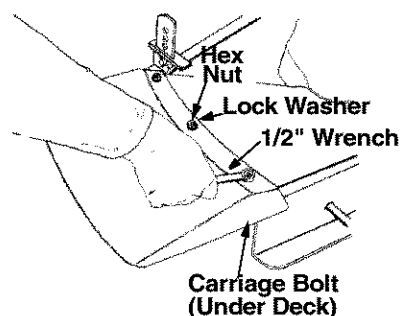
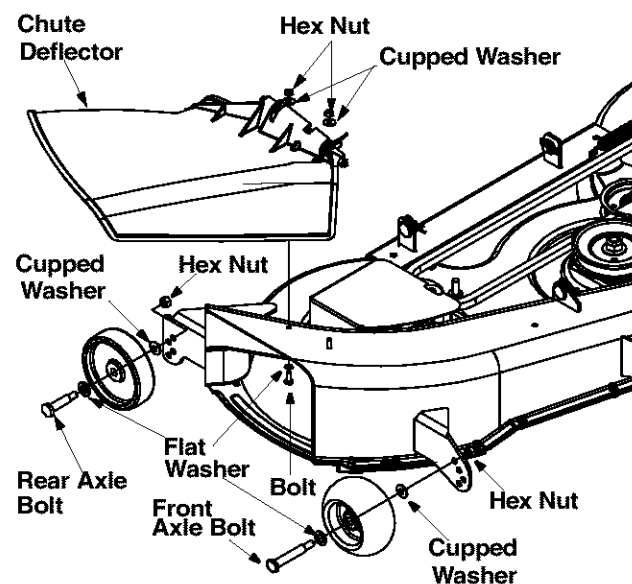

Figure 14
Figure 15
- Remove the bolts, nuts and cupped washers which are attached to the deck next to the chute opening. Place the chute deflector in position as shown in Figure 14. For 46" decks, please refer to Figure 15. Secure with hardware removed earlier.
- Place flat washer on the axle bolt, then the deck wheel and cupped washer (crowned side of washer goes against the wheel). See Figure 15.